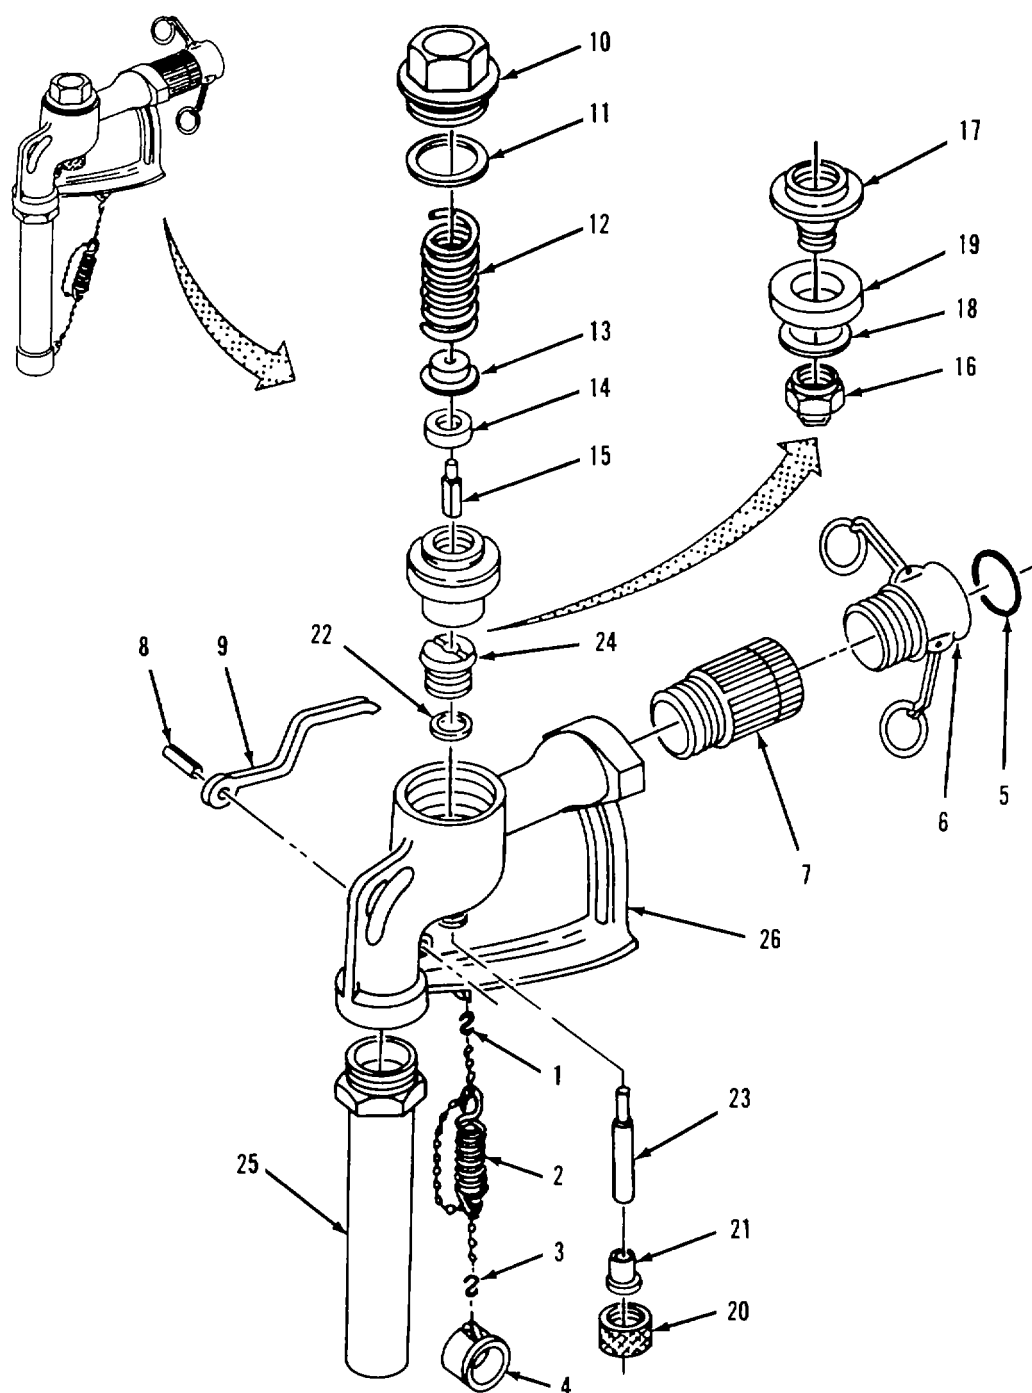

Figure 4-15. Distribution Nozzle (1 ½-inch) Assembly.
- (1) Inspect body (26) for cracks and stripped or damaged threads.
- (2) Inspect handle (9) for cracks.
- (3) Inspect tube and adapter (25) for bends, cracks, and deformation.
- (4) Inspect stem (23) for scoring Check that stem is straight.
d. Repair. Replace damaged parts and all sealing componentse. Assembly. Refer to figure 4-15.
- (1) Screw tube and adapter (25) into body (26).
- (2) Install packing (22) in stuffing box (24), then screw stuffing box down into body (26).